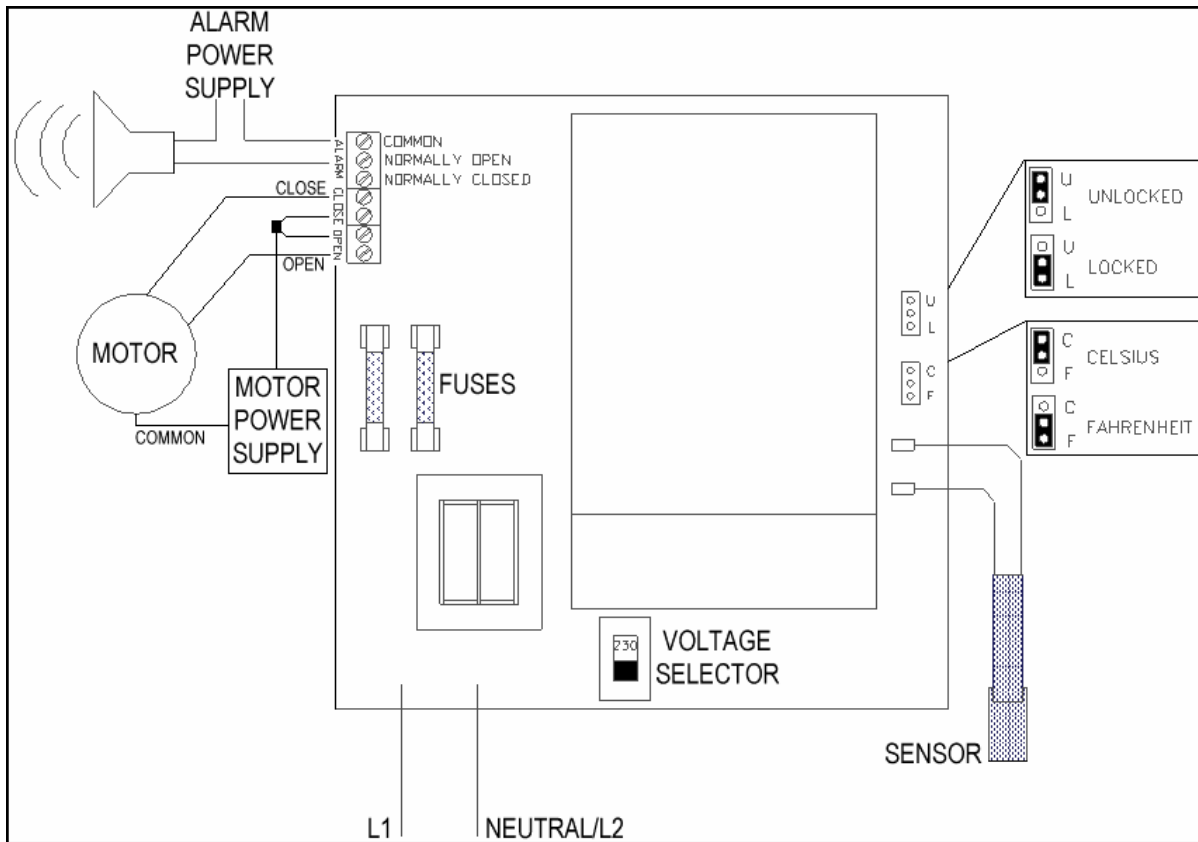

Figure 1: Wiring Diagram
- Wire the control as shown in **Figure 1**.
- Connect the alert device to the COM (common) and N/O (normally open) or N/C (normally closed) terminals, depending on the type of signal your alert device requires. See **Figure 1** for the wiring diagram.